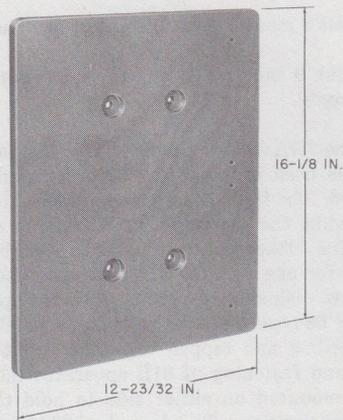

Fig. 18—173A Backboard
3.01 The 173A backboard (Fig. 18) is designed to mount one or two 15A apparatus mountings. It is finished in light olive gray.